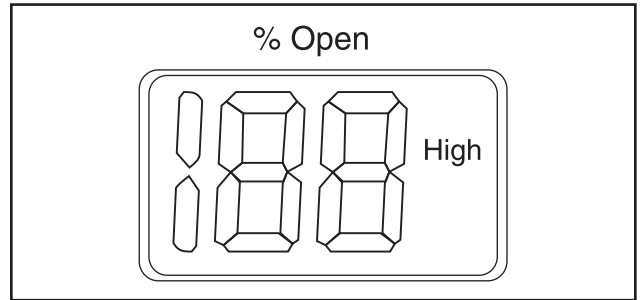

Figure 23
- **High** represents that ICAD is operating the ICM valve like an ON/OFF solenoid valve with high speed according to a digital input signal (Figure 23).